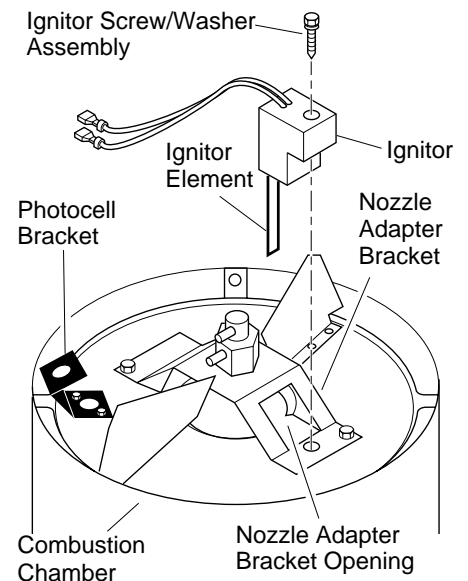

Figure 11 - Ignitor Replacement
6. Remove combustion chamber. Stand combustion chamber on end with nozzle adapter bracket on top (see Figure 11).
9. Carefully guide ignitor into opening in nozzle adapter bracket. Do not strike ignitor element. Attach ignitor to nozzle adapter bracket with screw using a 1/4" nut driver (see Figure 11). Torque 8 to 15 in. lbs. Do not over torque.